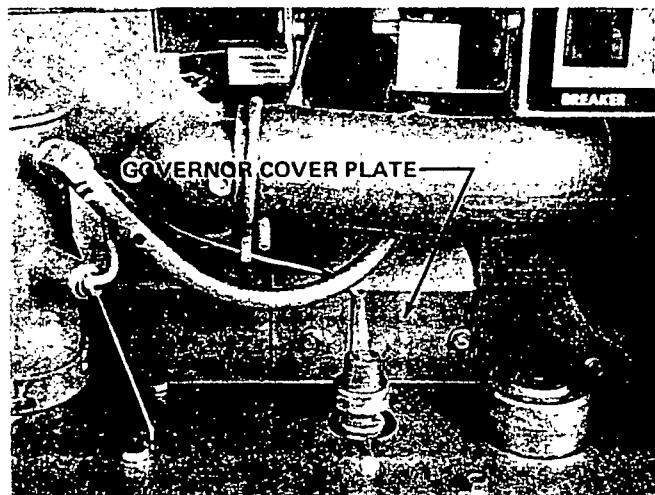

Figure 34
A.) With the XP NOT running, remove the governor cover plate located directly behind the low oil switch (figure 34).